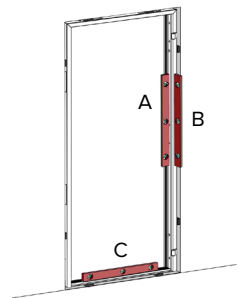

Fig. 13.
3.5. Level the door frame with a construction level, placing it against the hinge side. To check vertical alignment, apply a construction level to the inner wide plate of the frame (A); to check the tilt apply a construction level to the front face of the frame (B); to check horizontal alignment apply a construction level to the threshold (C) (Fig. 13).